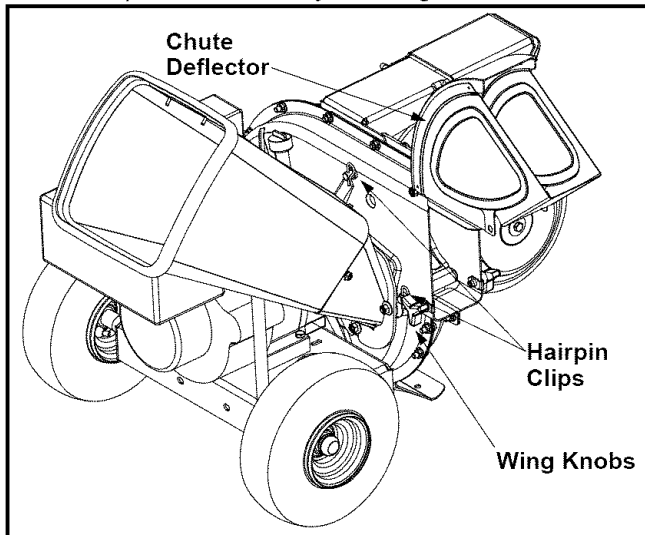

Figure 9
- Remove the bag and two wing knobs on each side of the chute deflector and lift the chute deflector up to keep it out of the way. See Figure 9.
- Remove the two hairpin clips from each clevis pin which extend through the housing and remove the pins. See Figure 9.